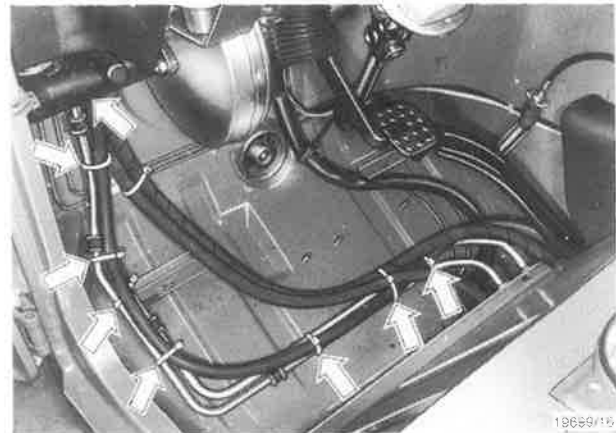

Fig. 2
- Position cable clips and rubber grommets acc. to fig. 2.